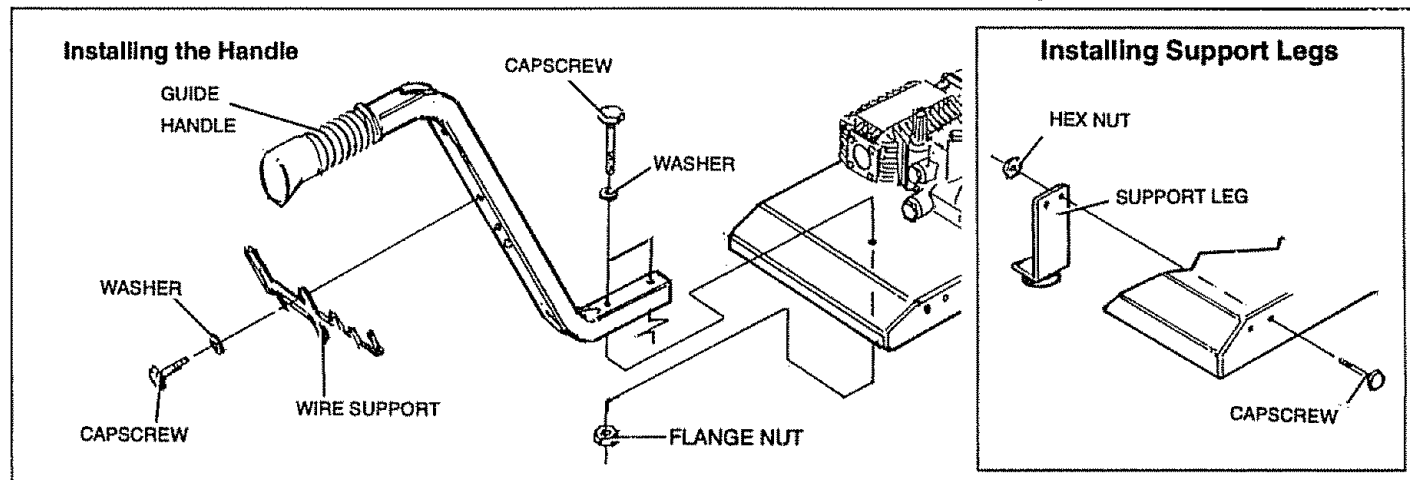

FIG. 2
- Attach support legs to base as shown in Fig. 2 with M8 x 20mm hex head capscrews and flange lock nuts. Tighten with 13mm or 1/2-inch wrench on each fastener. Be sure legs are straight when you are finished.
- Attach the guide handle to the base as shown in Fig. 2 with two M8 x 40mm hex head capscrews, two M8 washers and two flange nuts.